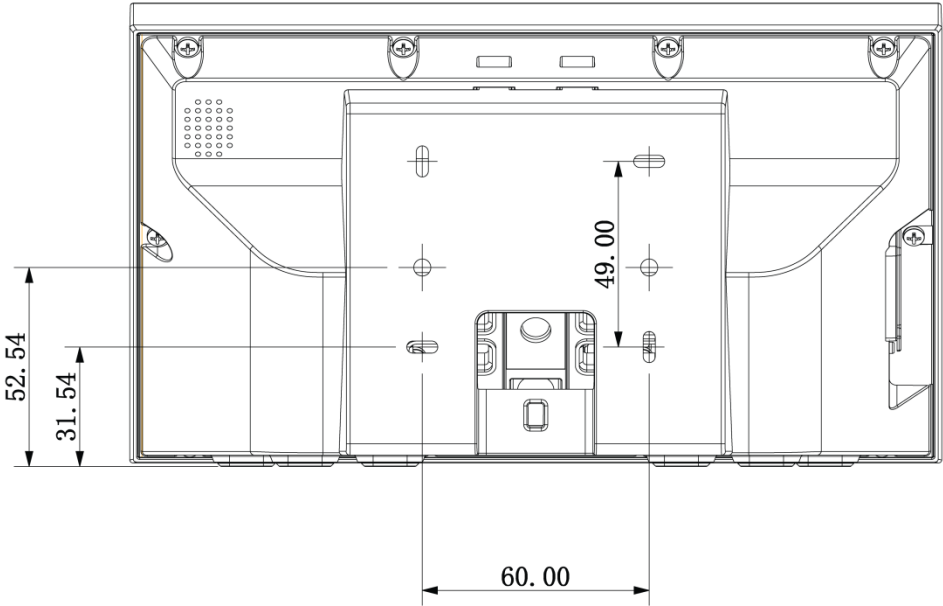

Figure 2-3
- Step 1 Drill holes according to the positions in Figure 2-3, and install expansion pipes into holes.